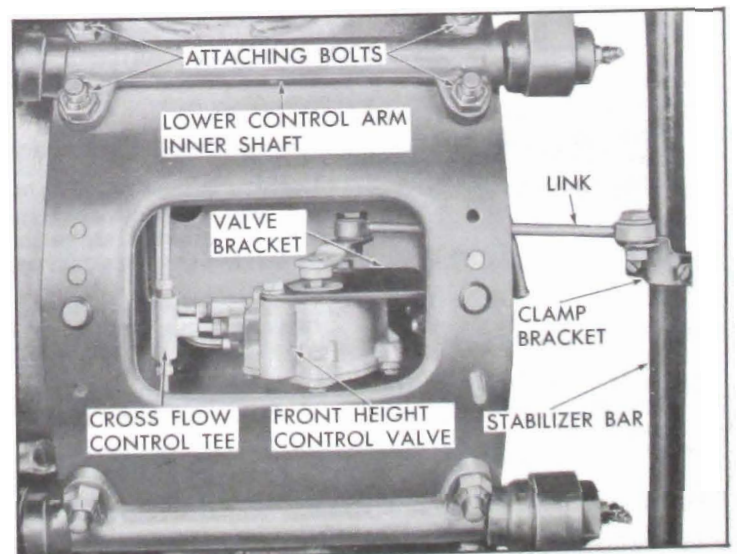

Figure 7-41—Front Height Valve Assembly
- (f) Disconnect height control valve link from clamp-bracket on stabilizer bar. See Figure 7-41.
- (g) Disconnect air line at fitting on air spring dome. This will exhaust air from both front air springs, but will not affect the rear. See Figure 7-41.
(k) Connect height valve link to clamp-bracket on stabilizer bar. See Figure 7-41.
(d) Disconnect height valve link at clamp-bracket on stabilizer bar. See Figure 7-41.
(f) Disconnect all air lines at height valve allowing cross flow control tee to remain with air lines. See Figure 7-41.